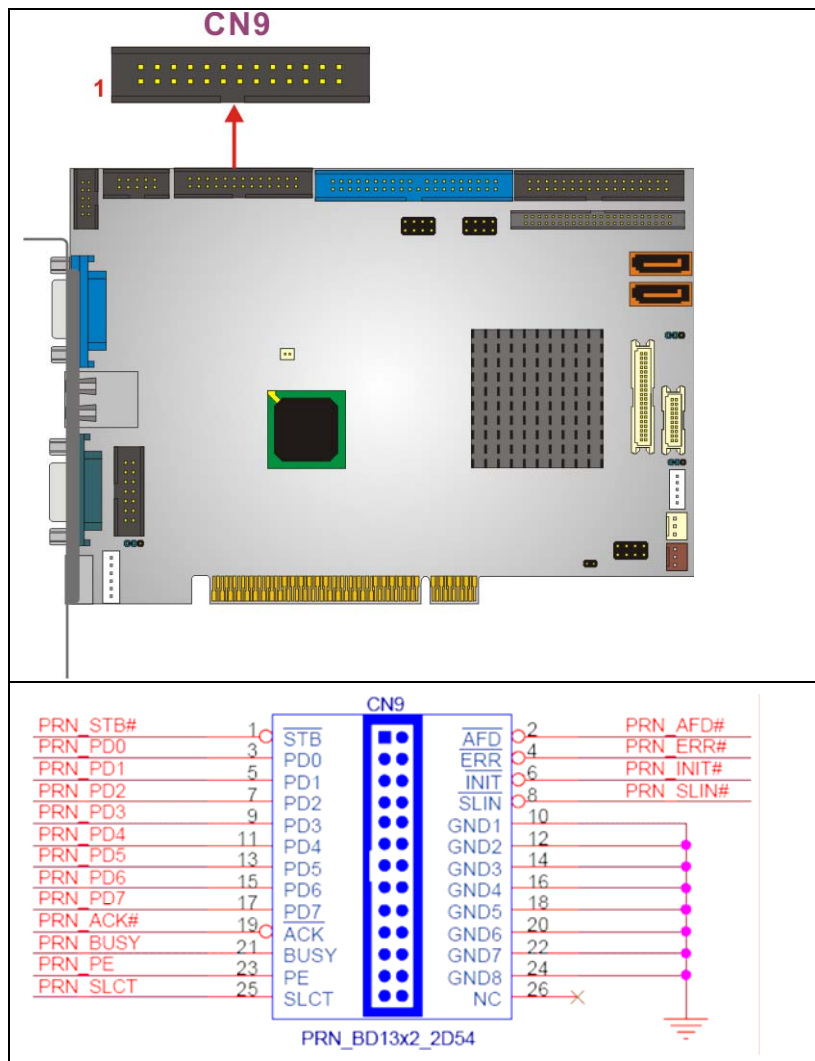

Figure 3-14: Parallel Port Connector Location
- CN Location:** See Figure 3-14